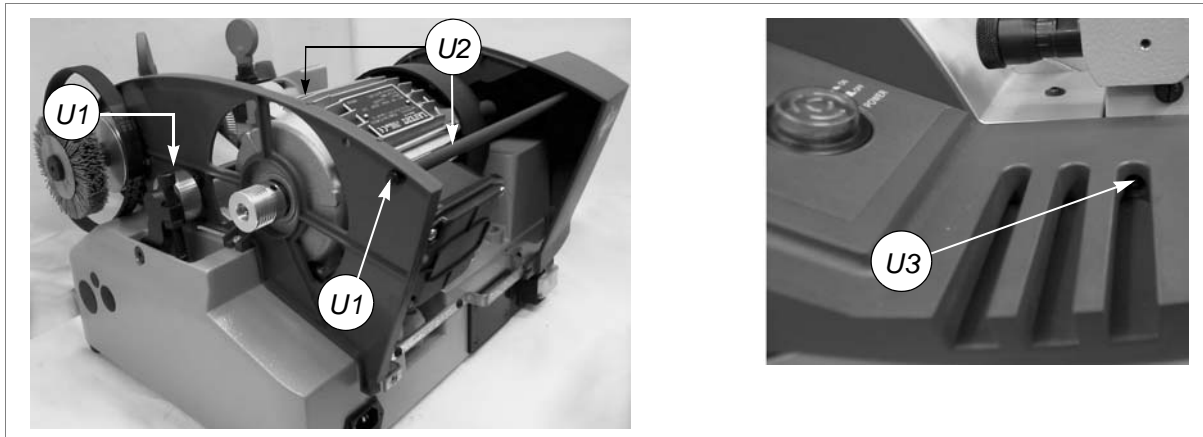

Fig. 32
- 7) Loosen the stay bolts (U2) (fig.32) and remove.
- 8) Loosen the screw (U3) on the left-hand cover (fig.32).